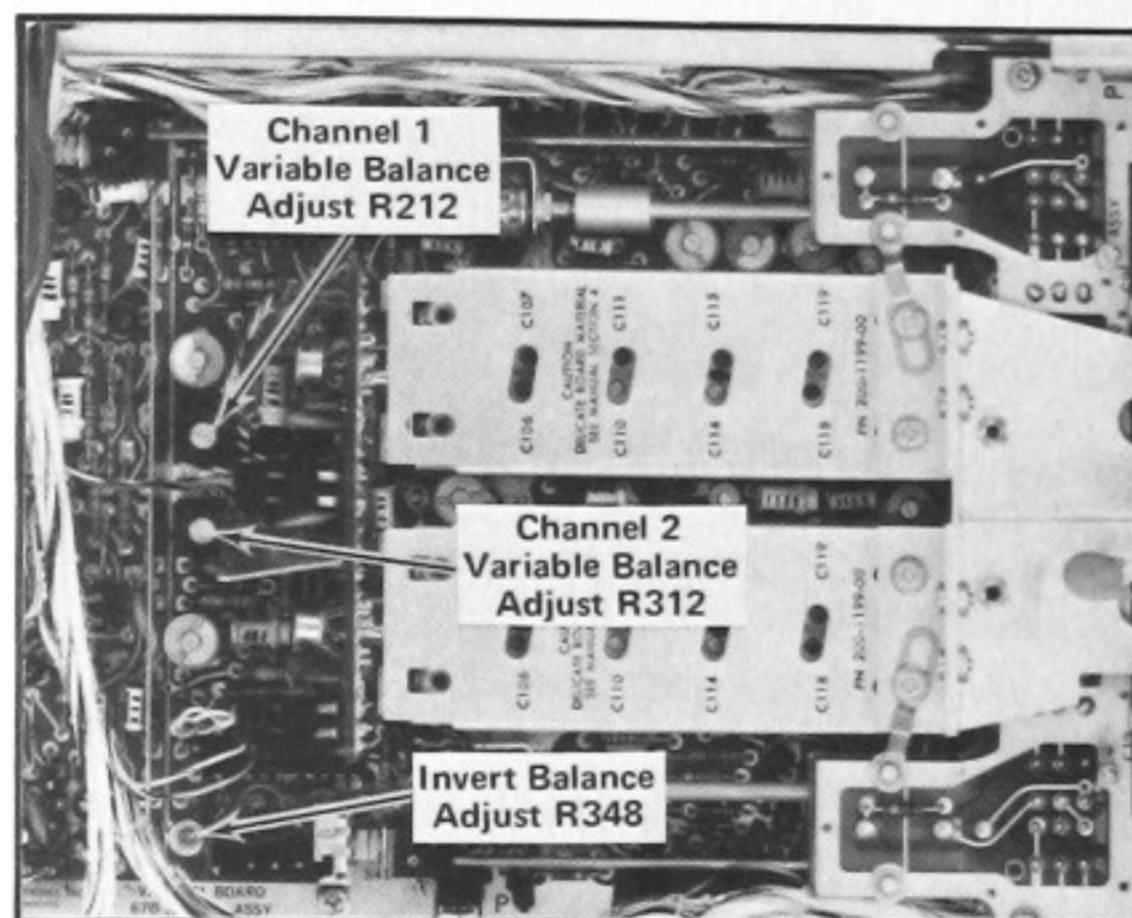

Fig. 5-6. Location of Channel 1 and 2 balance adjustments.
- g. ADJUST—Variable Balance adjust R212 (see Fig. 5-6) for minimum trace shift when rotating the CH 1 Variable VOLTS/DIV control.
- h. ADJUST—Variable Balance adjust R312 (see Fig. 5-6) for minimum trace shift when rotating the CH 2 Variable VOLTS/DIV control.
- m. ADJUST—Invert Balance adjustment R348 (see Fig. 5-6) for minimum trace shift when inverting the Channel 2 display.